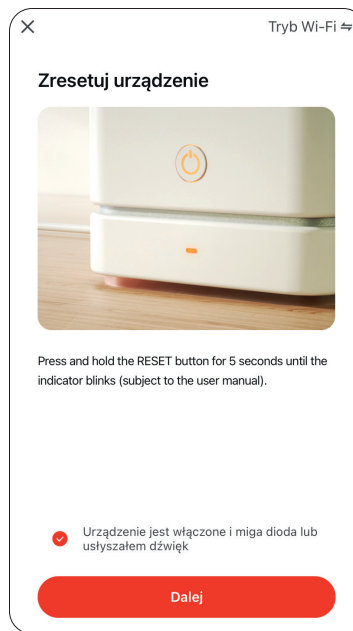

Fig. 7
- Put the sensor in pairing mode by holding the TEST button on the device for a longer time (approx. 5 sec.) until the word 'PAR' appears on the display and red LED starts flashing and then confirm this fact in the application (Fig. 7).